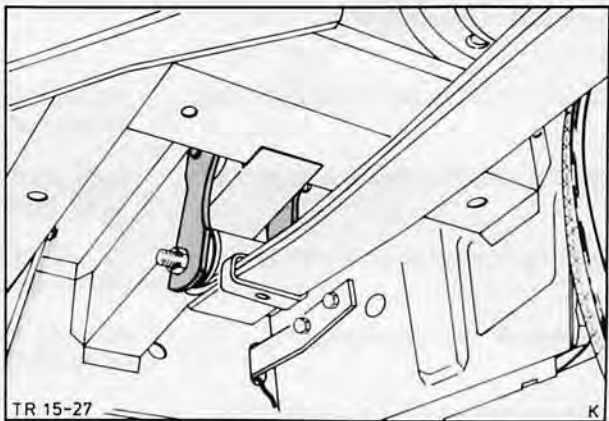

Fig. 146. Detach rear spring hanger
2. Detach spring hanger at rear, Fig. 146.